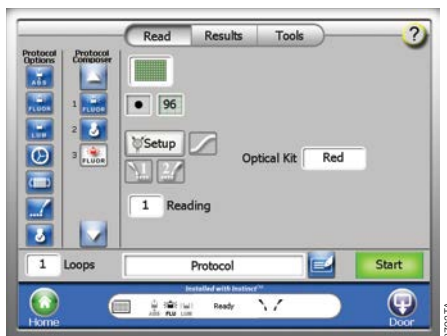

Figure 13. A Defined Protocol ready to run.
4. Select and drag the “Fluorescence” icon to the Protocol Composer, and select the Red Optical Kit (Figure 13).